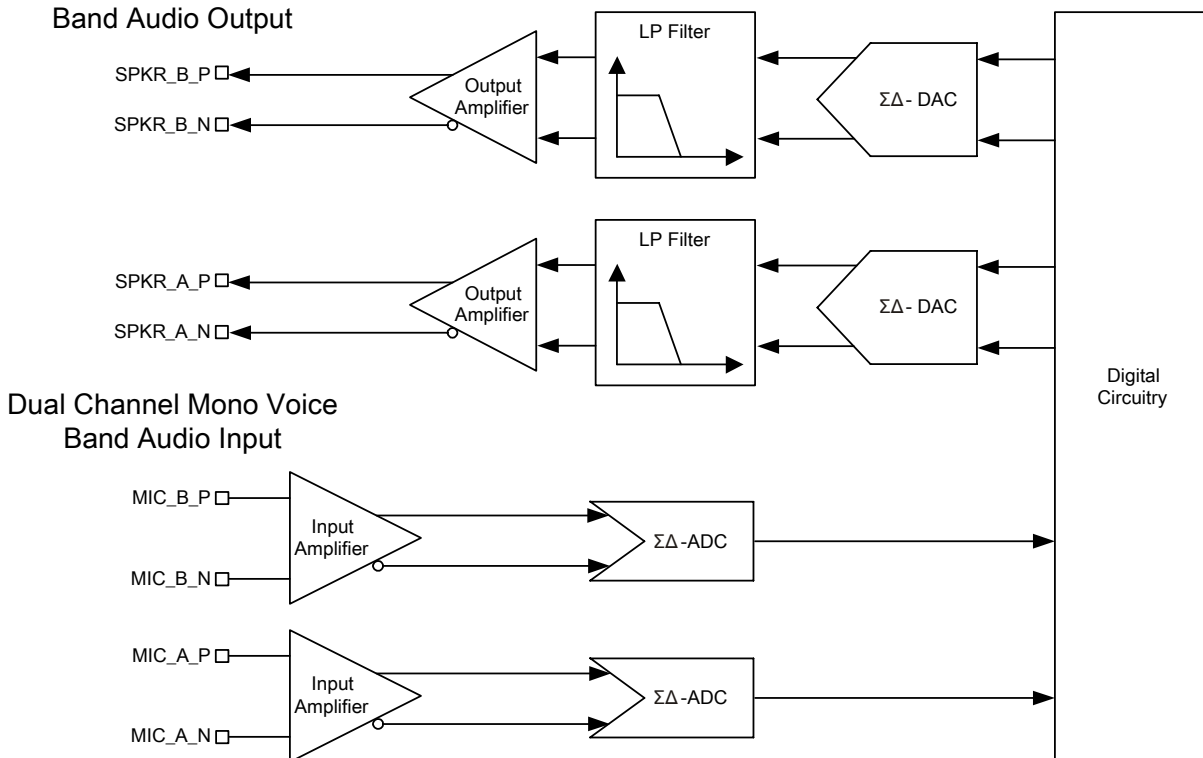

Figure 10.2: Codec Audio Input and Output Stages
- Two second-order Sigma Delta converters allowing two separate channels that are identical in functionality, as shown in Figure 10.2.